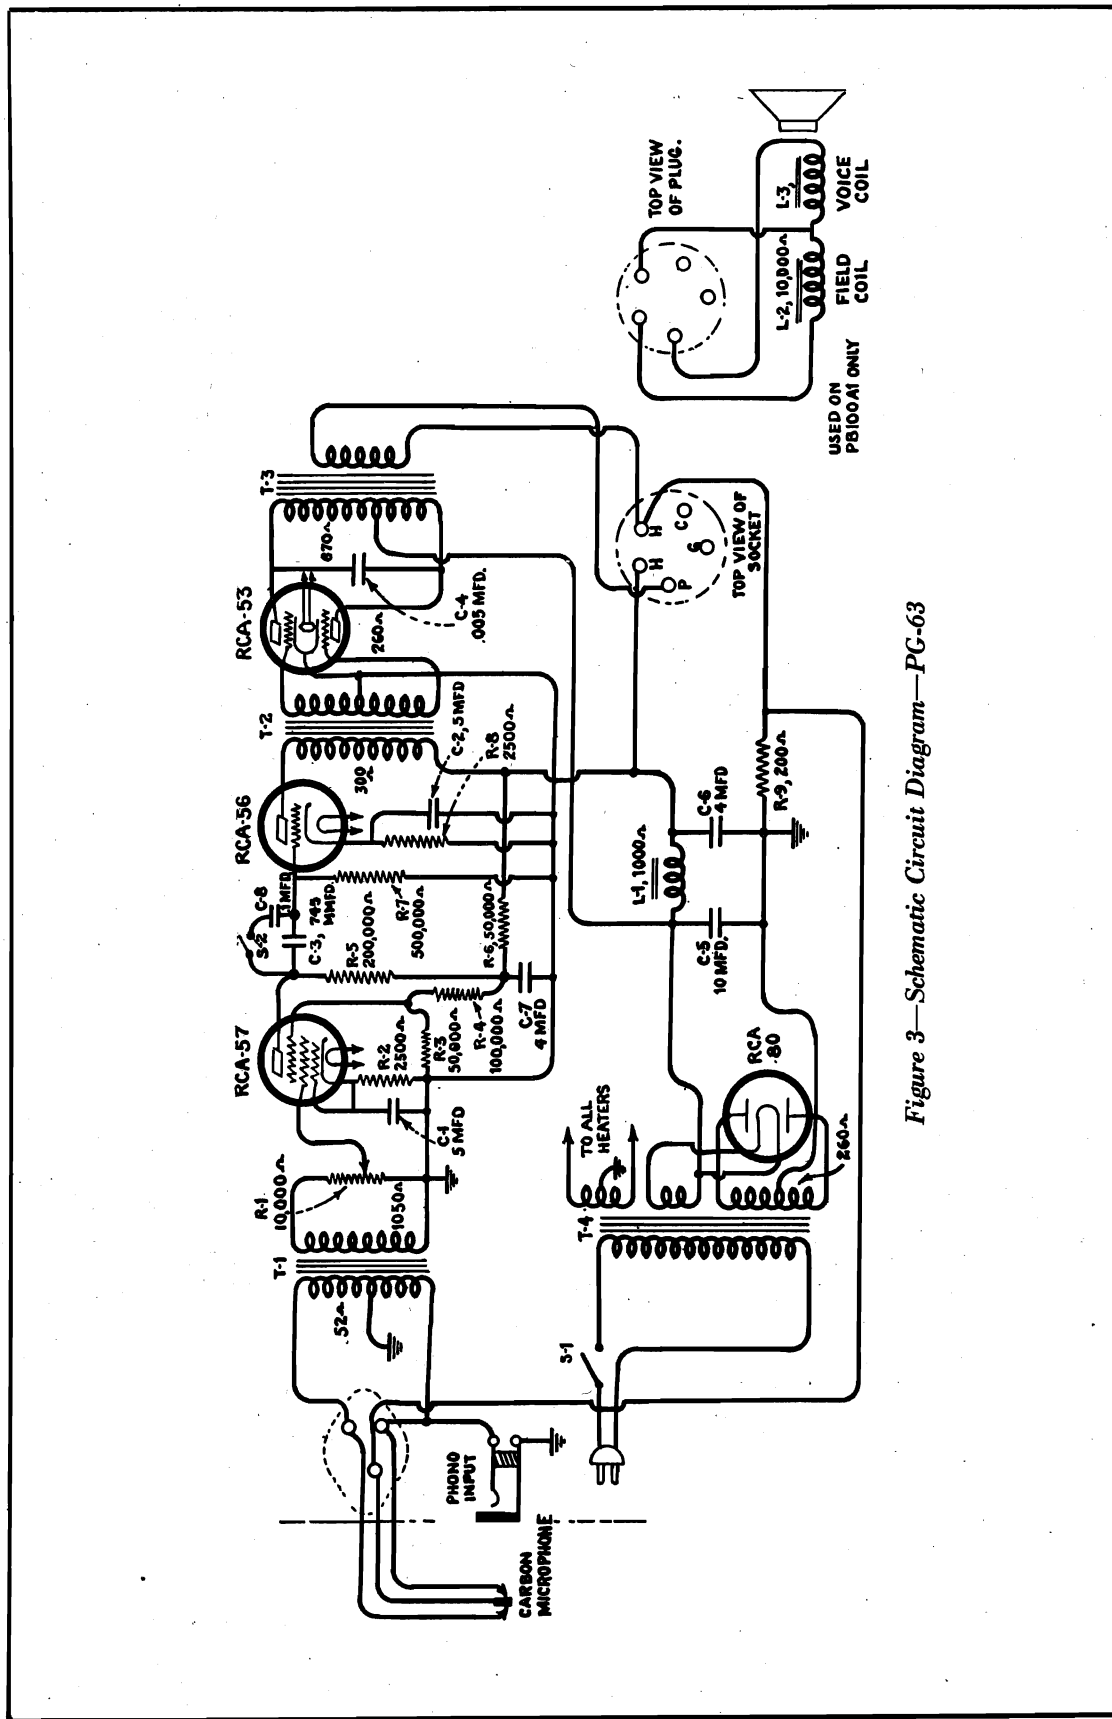
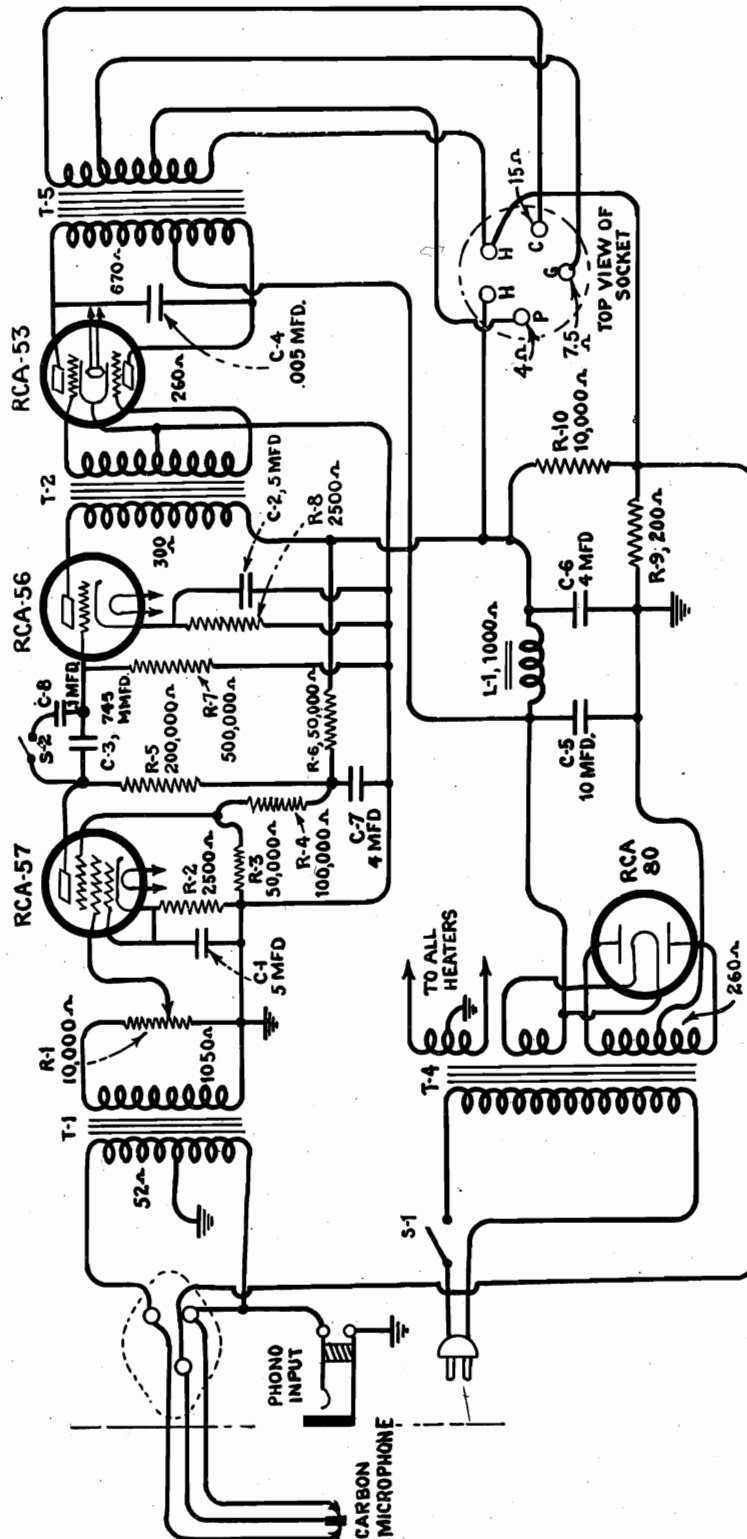
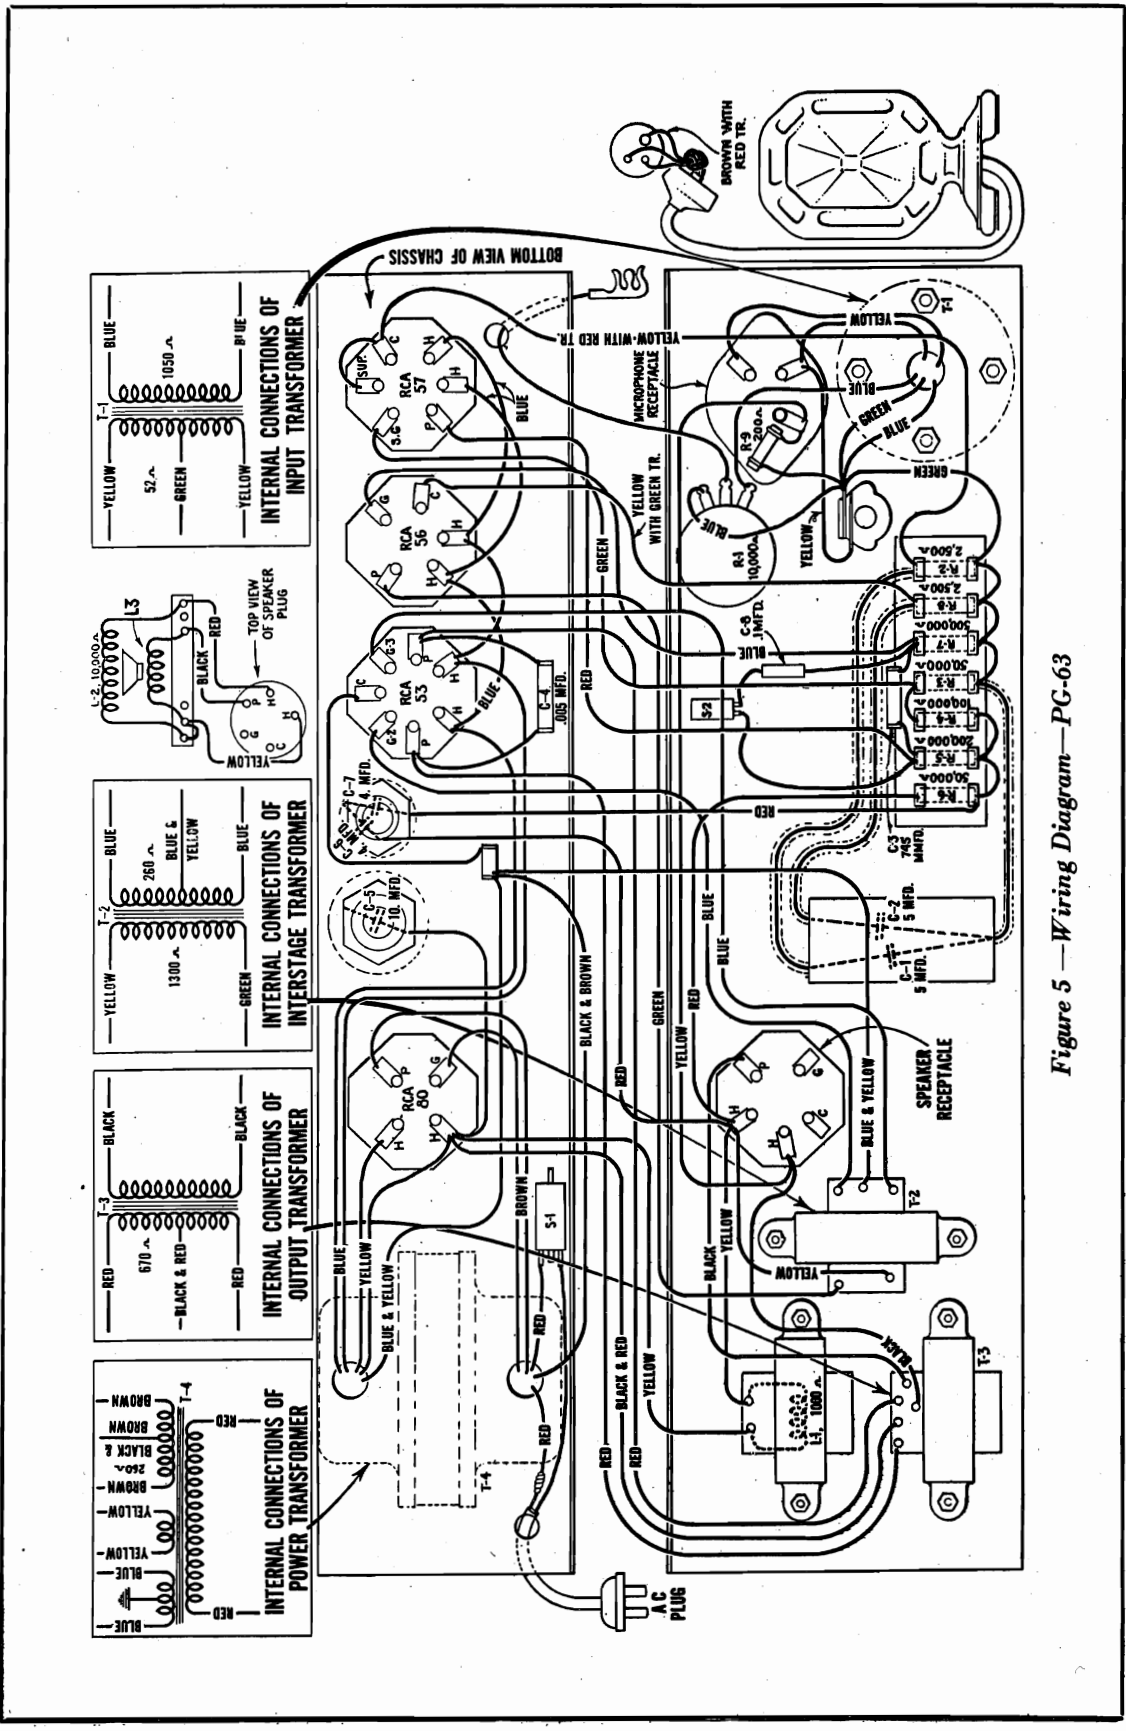
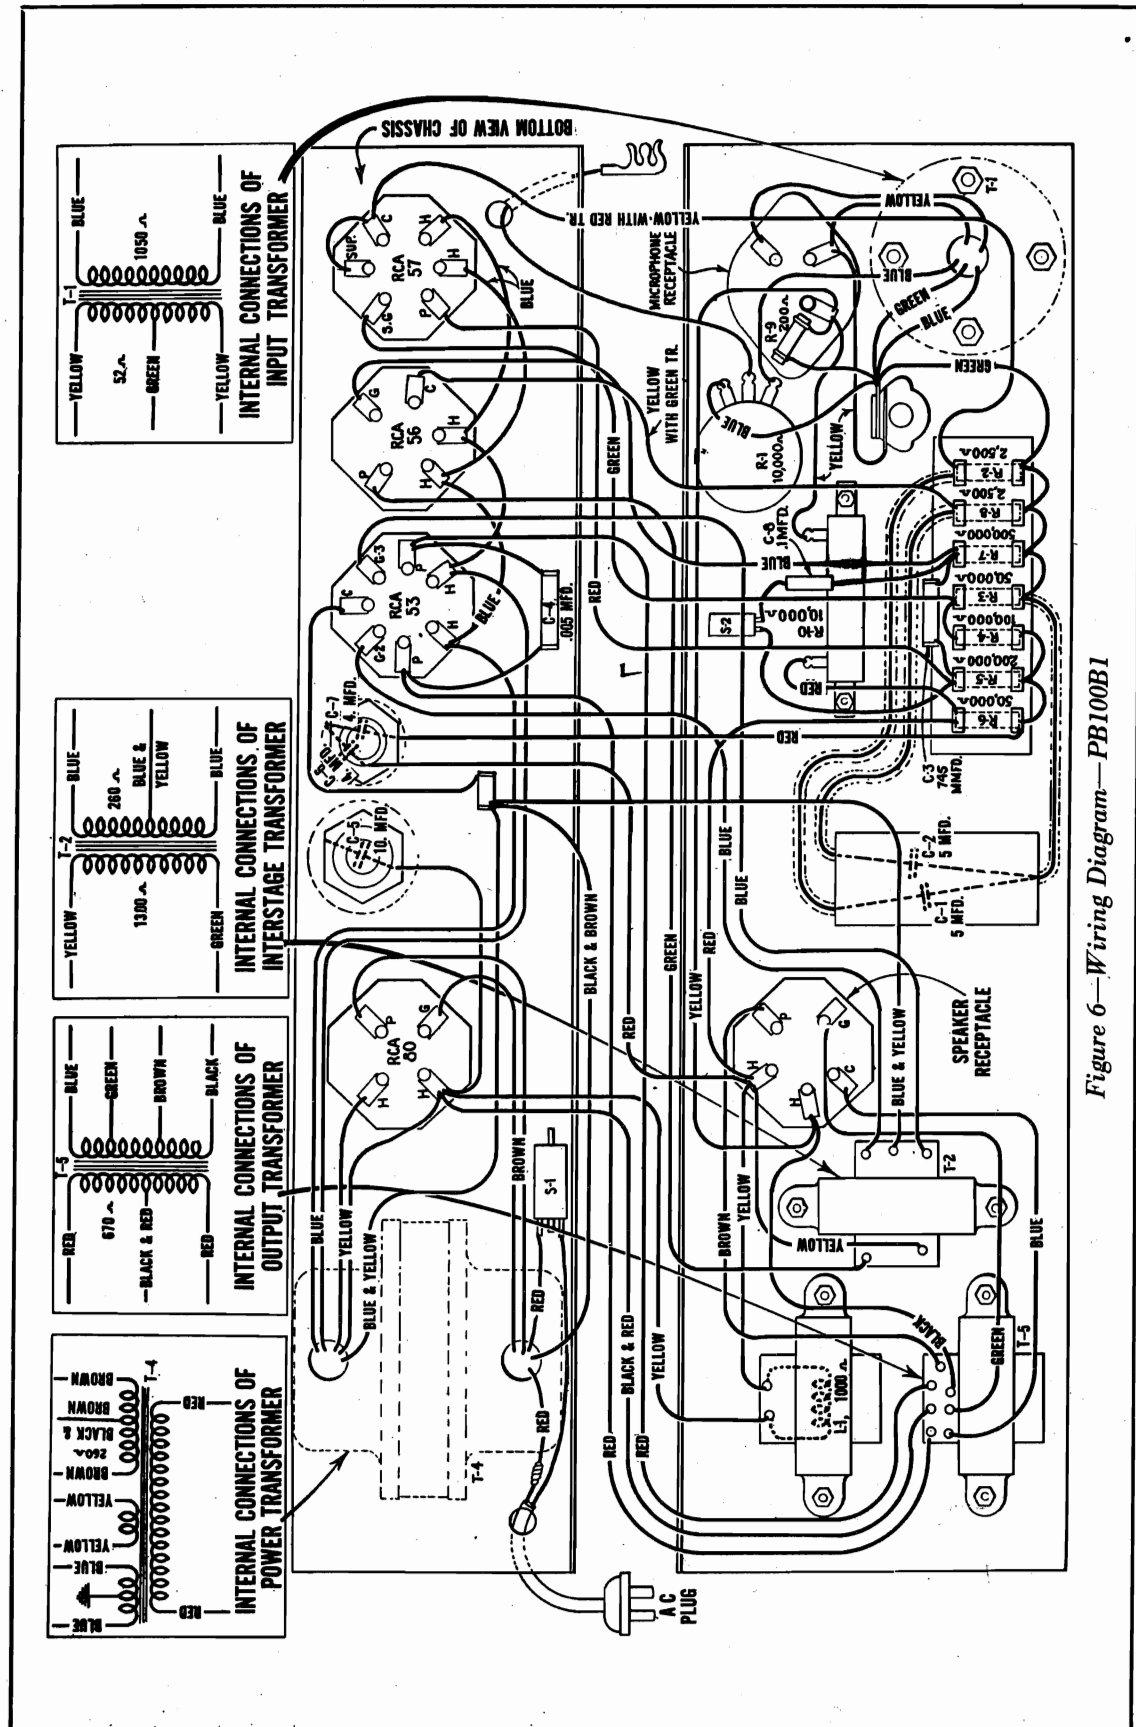

Figure 3—Schematic Circuit Diagram—PG-63
Figure 4—Schematic Circuit Diagram—PB-100B1
Figure 5—Wiring Diagram—PG-63
Figure 6—Wiring Diagram—PB100B1
3. Make connections between the voice coil of the loudspeaker and two prongs of the five-pole plug so that the proper impedance match is obtained between the loudspeaker and the output transformer. See Figure 4. Insert the loudspeaker plug into the corresponding receptacle on the side of the amplifier base.
The schematic wiring diagram for the PB100A1 amplifier equipment is shown in Figure 3 and that for the PB100B1 is shown in Figure 4. The wiring diagram for the complete PG-63 equipment is shown in Figure 5. Figure 6 shows the wiring diagram for the PB100B1 amplifier.